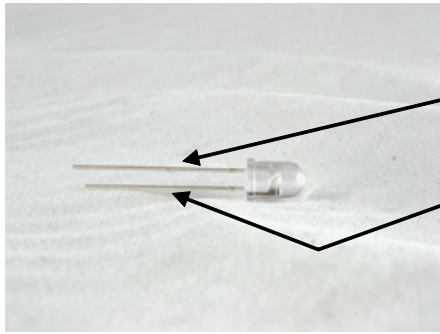

Figure 4. CQY89A
- Place and solder the Clear Transmitting IR Led, IR TX (Note polarity see Figure 4.) Long leg to A, Short leg to K.